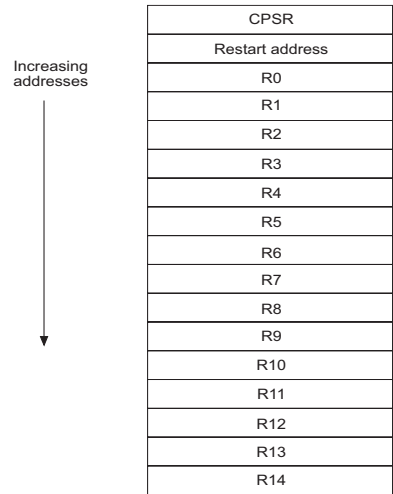

Figure 9-1 PCB layout
- Each User mode process has an associated *Process Control Block* (PCB), which stores its register values while it is not running. The format of a PCB is shown in Figure 9-1.